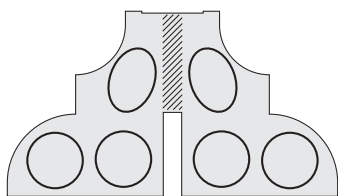

Fig. 1: Distance rings on pedestal wall 1
**Step 2:** Glue six distance rings on the front of pedestal wall 1 [A13, sheet 5] according to fig. 1. The hatched area has to remain open. Let dry well and press down several times while the glue sets. Now cover the upper edges of the distance rings with plenty of glue and lay pedestal wall 2 [A14, sheet 6] on it, so that the edges of both walls are exactly above one another. Tap the resulting pedestal half on your work surface with its lower edge so that both wall sides come to equal height. Check again whether none of the sides project beyond the other anywhere and lay the whole piece flat with wall 2 facing down, so that the liquid glue can run toward the new bonding area and not away from it. Use a book, or similar thing, to weigh it down.